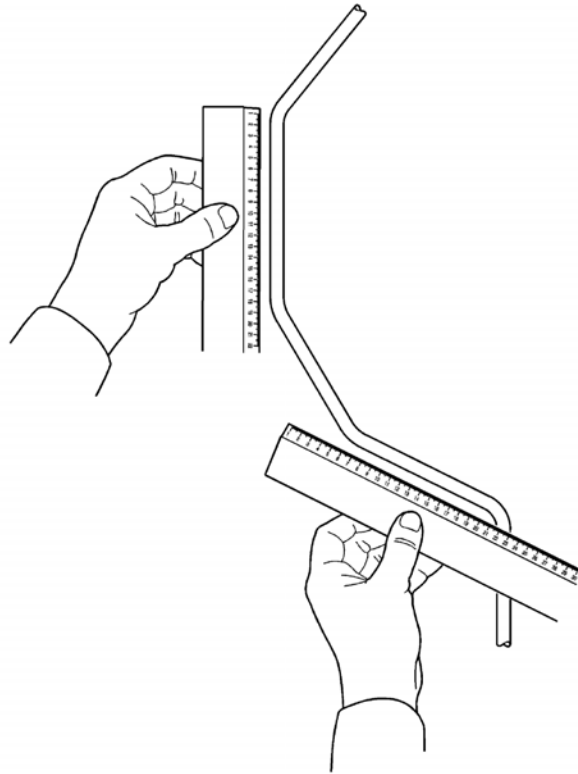

Figure 3. Check the tube straight sections using a straight edge
- (1) Locate oil tube 6A5082 on the engine, see Figure 1. Visually examine tube 6A5082 for deformation. Pay special attention to the straight sections supported by the lugs, highlighted by the two dotted lines in Figure 2. Use a straight edge, see Figure 3. These figures are for reference only.